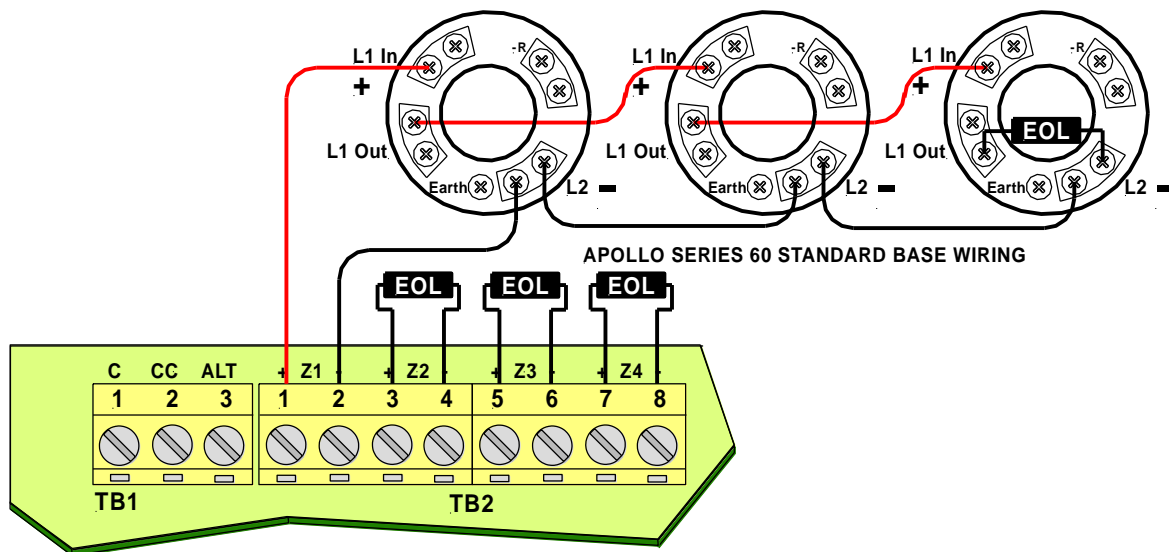

Figure 7: Detector Wiring
- Switch 1 of SW10 can now be toggled to Disable / Enable battery monitoring. (Switch 1 'ON' battery monitoring enabled. Switch 1 'OFF' battery monitoring Disabled (See Figure 7))